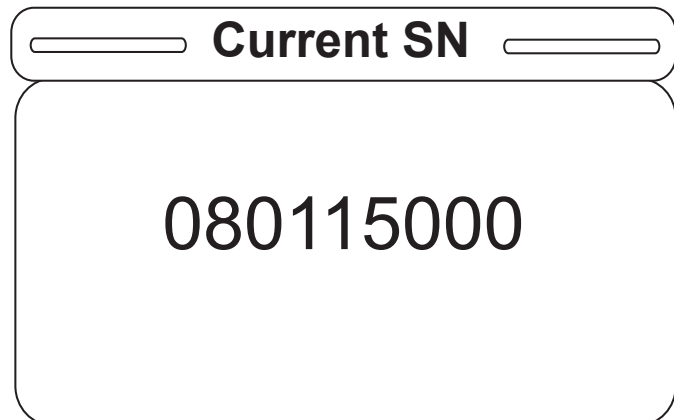

Figure S-26
24. Once a serial number is saved and the user enters the Current SN item, the screen in Figure S-26 will be displayed. The entered serial number will be displayed until the user hits the “Exit” button on the footboard panel.